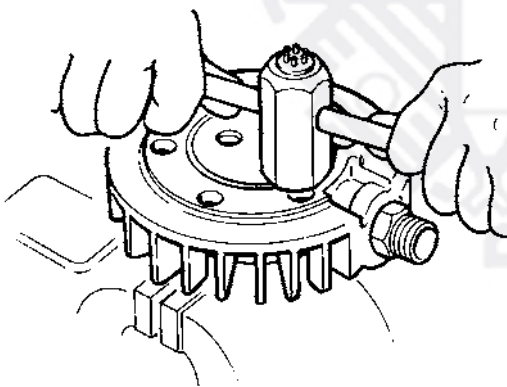

Fig. 16 Removing the intake valve
- Unscrew the intake valve body with the special tool (part no. 4555-645, part of the tools set delivered with the unit) (Fig. 16).